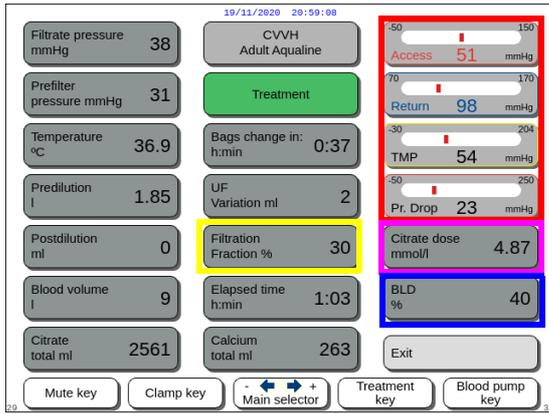

Fig. 170
- *Filtration fraction (%)* (yellow frame Fig. 170). The filtration fraction is affected by the pre-dilution flow rate, post-dilution flow rate, blood flow rate, citrate flow rate, and calcium flow rate.
- *Access, Return, TMP and pressure drop* (red frame Fig. 170) Access and return pressure, and TMP and pressure drop are displayed.
- *Citrate dose* (mmol/l) (magenta frame Fig. 170). This dose is displayed, when in *Service* mode the used citrate solution is programmed. If no citrate solution is programmed, the value displayed is citrate/blood flow ratio in percent. Attention: This display is accurate if the relevant citrate solution is programmed.
- *BLD (%)* (blue frame Fig. 170) Over 100% *Blood leak* alarm is activated.